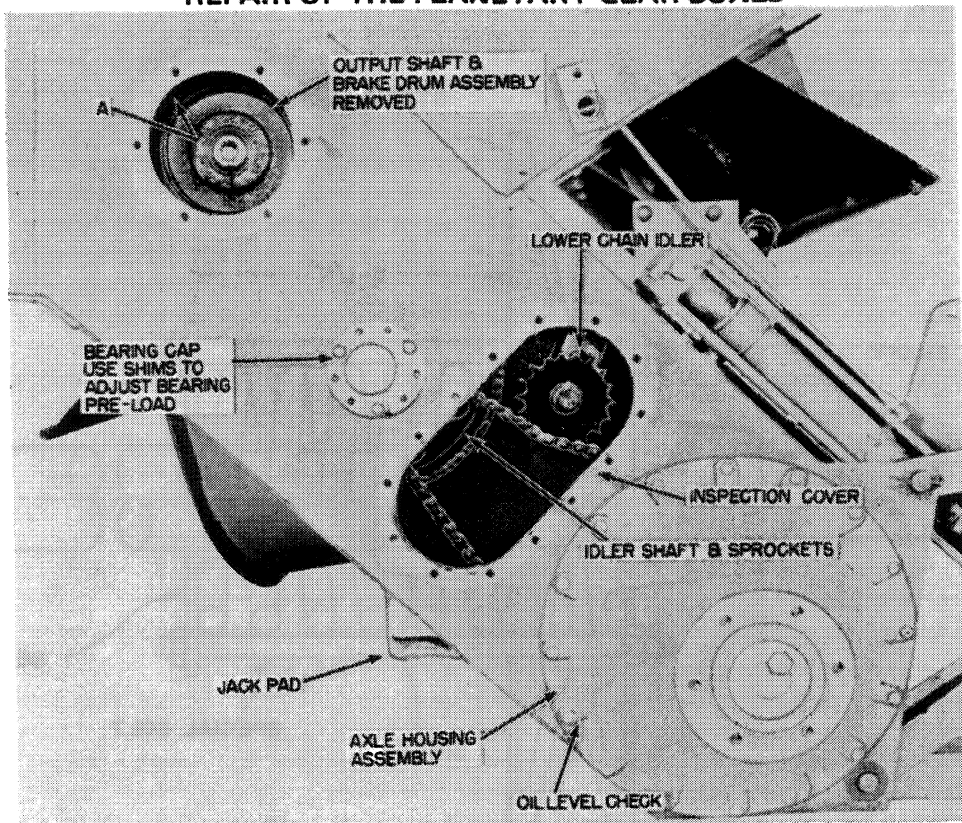

FIGURE 8
1. Remove the gear box output shaft, spur gear and brake drum assembly by taking out six bolts, Figure 8.
3. Remove the nine 5/16" diameter cap screws A, Figure 8, that bolt the planetary gear box to the inside wall of the chain case.
1. Remove the inspection cover, Figure 8 and take the lower drive chain apart.
3. Jack the wheel off the ground. Use the jack pad, Figure 8. Remove the axle housing bolts and pull the housing from the chain case.
4. The idler shaft with the large sprocket and the small sprocket can be removed by first taking off each bearing cap, Figure 8 (note the position of the shims under the housings). The shaft may then be pulled or driven out. DO NOT LET THE BEARING CONE OR THE WASHER AT EACH END OF THE SHAFT FALL DOWN IN THE CHAIN CASE.
13. Add SAE No. 90 oil to the chain case up to the oil level check plug, Figure 8. Install the cover.